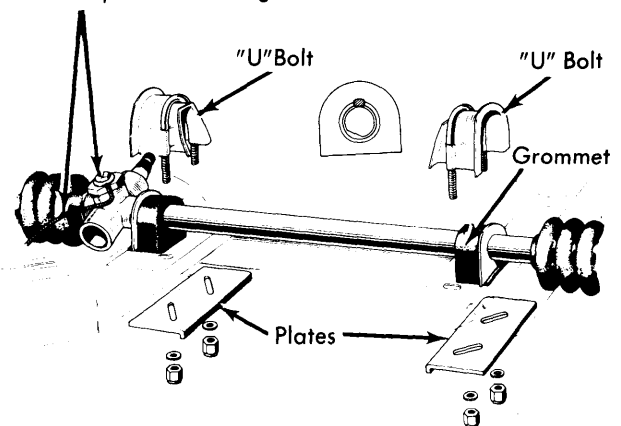

Fig. 2 Reassembly of Rack Rubber Grommets (TR6 and Spitfire)
3) On all other models, hold steering wheel in straight-ahead position and engage rack pinion shaft splines in flexible coupling. Install and tighten pinch bolt. Keep rubber grommets correctly positioned on inboard side of rack flanges with lip under straight face of flange, then fit "U" bolts (Fig. 2). Refit tie rod outer ends to steering arms.